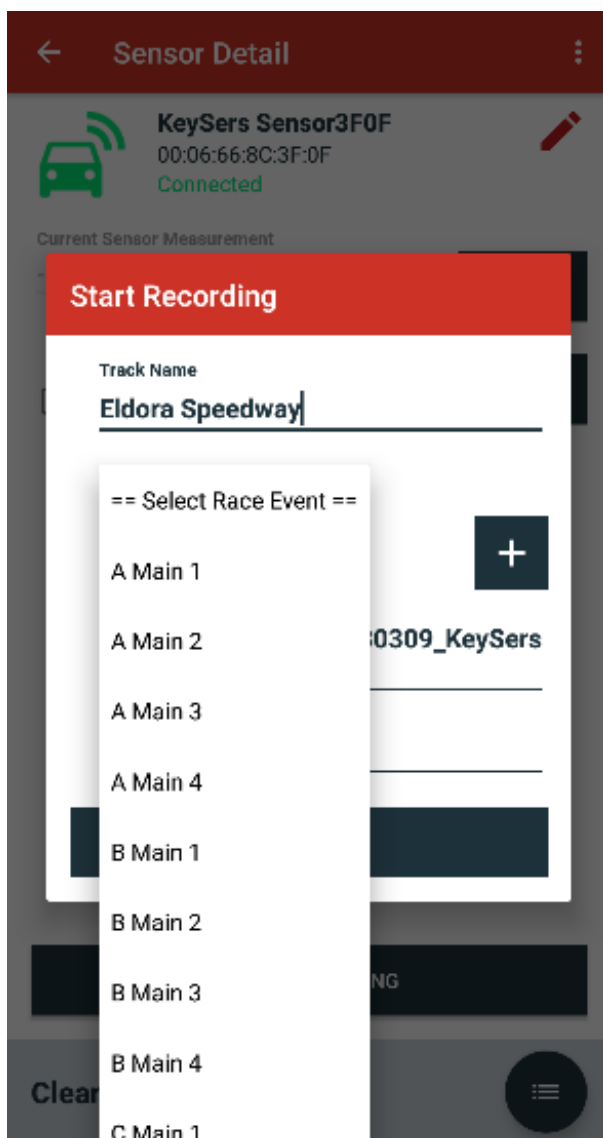

Figure 23: Select race event drop-down menu
9. It is also required to pick what type of session that is being recorded, to differentiate itself from other possible recording sessions. Press the down arrow next to “==Select Race Event==” and select from the drop-down menu shown in Figure 23.